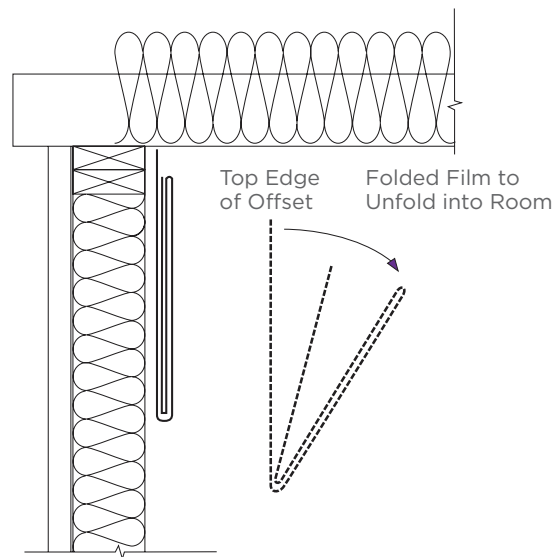

Figure 2: MemBrain sheeting orientation for wall installation method.
5. After stapling to the opposite corner, allow the folded sheet to unfold to the floor. (**See Figure 2**)